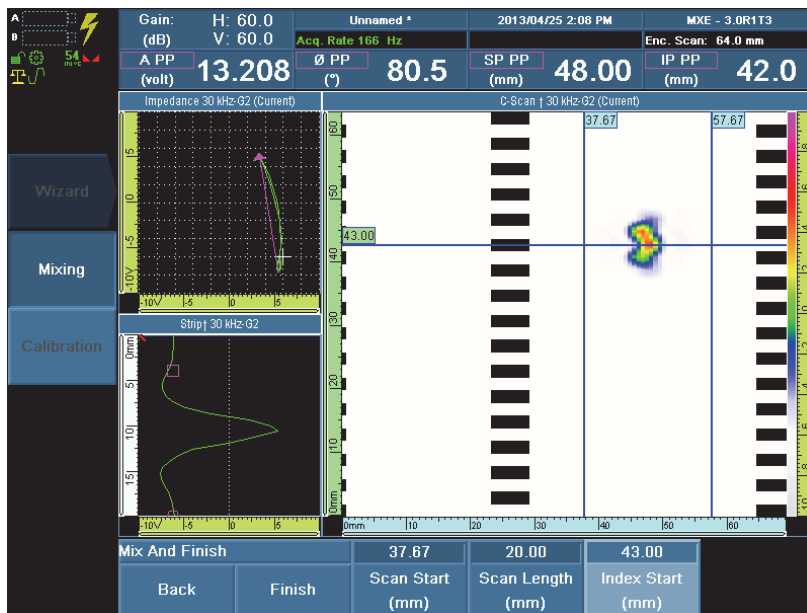

Figure 9-13 Positioning the measurement cursors in the Mix and finish step
start cursor before the defect, at a distance equal to the length of the defect (see Figure 9-13 on page 155).
11. Scan the good fastener, and then the defective fastener on the calibration sample. The signal of both fasteners in the views should be weak (see Figure 9-13 on page 155).
1. Select **EC Settings > Settings (MAIN) > Gain (dB)**, set the value to expand the signal to ensure that it spans approximately 6 grid divisions in the impedance plane view, and then press the Accept key to confirm. Typically, the **Gain (dB)** parameter value can be increased by 10 to 20 dB (see Figure 9-13 on page 155).
3. Move the origin towards the center in the impedance plane view by using the **H&V Position** submenu parameters. Select **EC Settings > H&V Position > Gain (dB)**, and then change the parameters as follows (see Figure 9-13 on page 155):